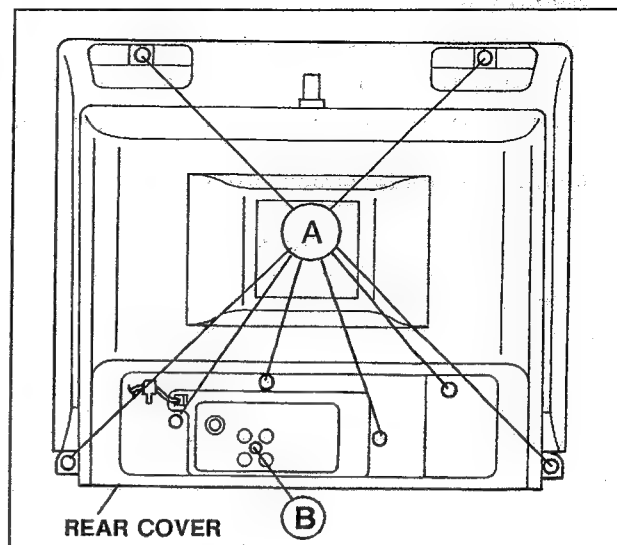
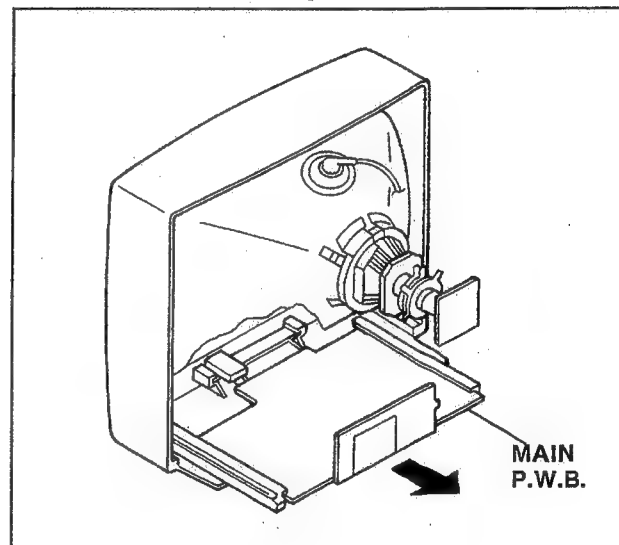
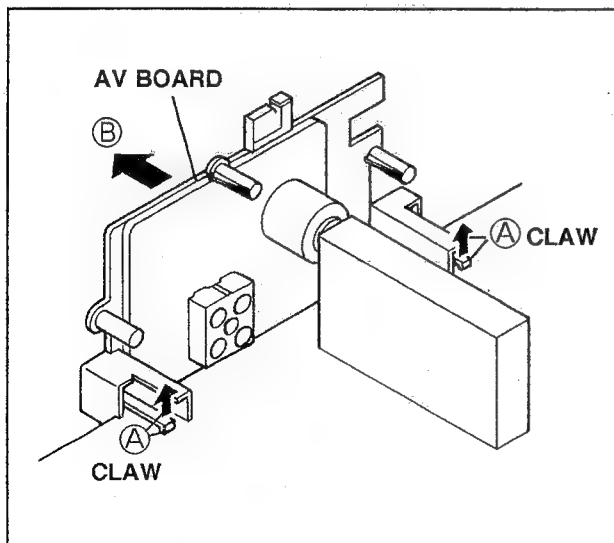

Fig. 1
Fig. 2
Fig. 3
2. Remove the eight screws marked (A) as shown in Fig. 1.
1. Withdraw the MAIN PW board backward along the rail.(Fig. 2)
2. Remove the one screw marked (B) as shown in Fig.1.
3. Remove the claws marked (A) by widening slightly in the direction of arrow as shown in Fig.3.
4. Remove the AV BOARD in the direction of arrow marked (B) as shown in Fig.3.
(1) Power off Switch off the power and disconnect the power cord from the outlet.
(2) Replace the memory IC. Initial value must be entered into the new IC.
(3) Power on Connect the power cord to the outlet and switch on the power.
(4) System constant check and setting 1) Simultaneously press the DISPLAY key and PICTURE MODE key of the remote control unit. 2) The SERVICE MENU screen of Fig. 1 is displayed. 3) While the SERVICE MENU is displayed, again simultaneously press the DISPLAY and PICTURE MODE keys to display the Fig. 2 SYSTEM CONSTANT screen. 4) Refer to the SYSTEM CONSTANT table-1 and check the setting items. Where these differ, select the setting item with the PICTURE ADJUST CENTER key and adjust the setting with the PICTURE ADJUST + / - keys. [ABL SETTING] 5) Press the PICTURE ADJUST + / - keys to adjust each item of ABL/REF/STEP in the ABL settings as shown Fig. 3. Then, select the items by the PICTURE ADJUST CENTER key and set the values by the PICTURE ADJUST + / - keys. After setting, press the MUTE key to return to the SYSTEM CONSTANT screen. 6) After adjusting, release the PICTURE ADJUST + / - key to store the setting value. 7) Press the MUTE key twice to return the normal screen.	<div data-bbox="906 936 1412 1205"> <p>SERVICE MENU</p> <p>1. VSM PRESET 2. SUB VSM 3. IF, V/C ADJ. 4. SET UP MENU ← [DO NOT SELECT]</p> <p>1-4 : SELECT MUTE : EXIT</p> </div> <p>Fig. 1</p> <div data-bbox="906 1299 1289 1563"> <p>SYSTEM CONSTANT</p> <p>COLOUR MULTI SOUND MULTI INPUT 1 ABL</p> <p>PIC ADJ : SELECT -/ + : OPERATE MUTE : EXIT</p> </div> <p>Fig. 2</p> <div data-bbox="909 1668 1292 1937"> <p>ABL SETTING</p> <p>ABL ON REF 3.6 STEP 4</p> <p>PIC ADJ : SELECT -/ + : OPERATE MUTE : EXIT</p> </div> <p>Fig. 3</p>
(5) Receive channel setting Refer to the OPERATING INSTRUCTIONS and set the receive channels as described.
(6) User settings Check the user setting items according to table-2. Where these do not agree, refer to the OPERATING INSTRUCTIONS and set the items as described.
(7) SERVICE MENU setting Check the items according to Table-3. Where necessary, refer to SERVICE ADJUSTMENTS and set the items as described.